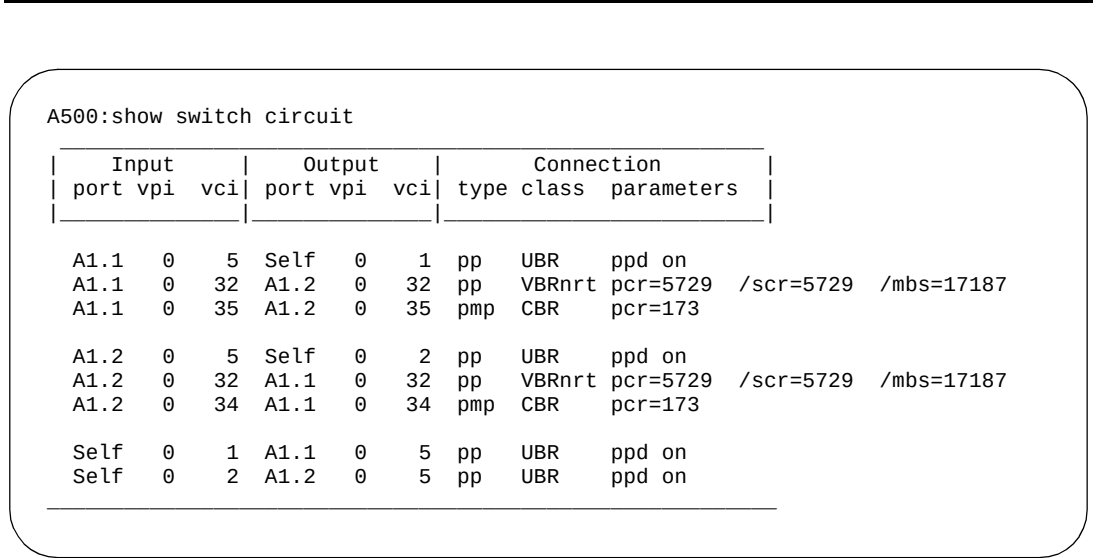

Figure 1-59. A500: show switch circuit screen
2. Enter **show switch circuittable** on the A500 console. Figure 1-59 shows the screen output.